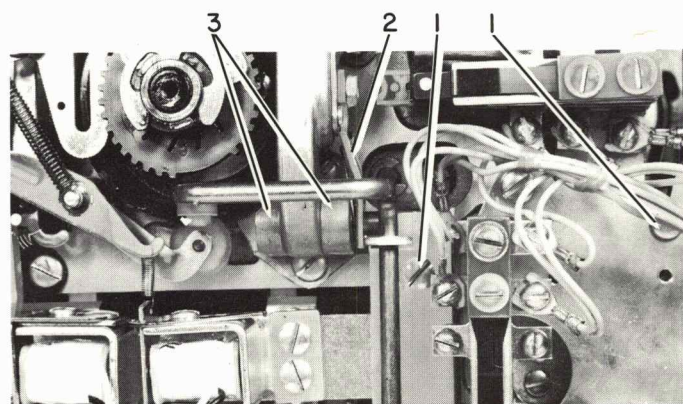

FIGURE 39. Shift Arm Removal
2. Remove the shift-contact assembly (#1, Figure 39).
3. Remove the shift-arm brace (#2, Figure 39).
4. Loosen the setscrews that hold the shift-arm pivot (#3, Figure 39).